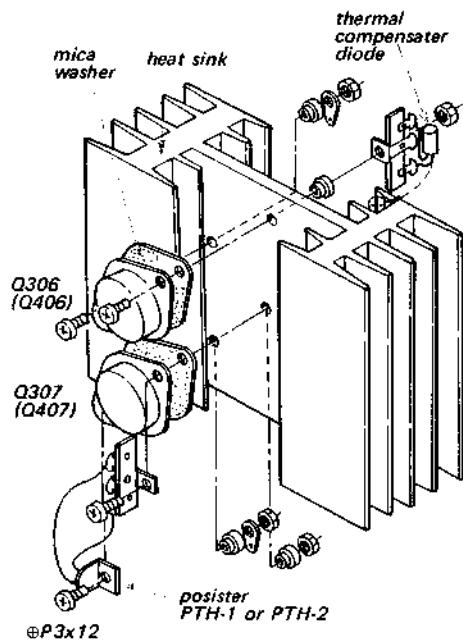

Fig. 2-7 Power transistor replacement
4. Remove the two screws ($\#P3 \times 12$) and nuts securing the power transistor to the heat sink, then install a new transistor. See Fig. 2-7.